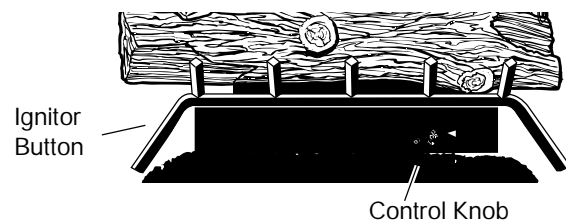

Figure 7 - Control Knob and Ignitor Button Location
4. Wait five (5) minutes to clear out any gas. Then smell for gas, including near the floor. If you smell gas, **STOP!** Follow "B" in the safety information in column 1, this page. If you don't smell gas, go to the next step.
5. Turn control knob counterclockwise  to the PILOT position. Press in control knob for five (5) seconds (see Figure 7).